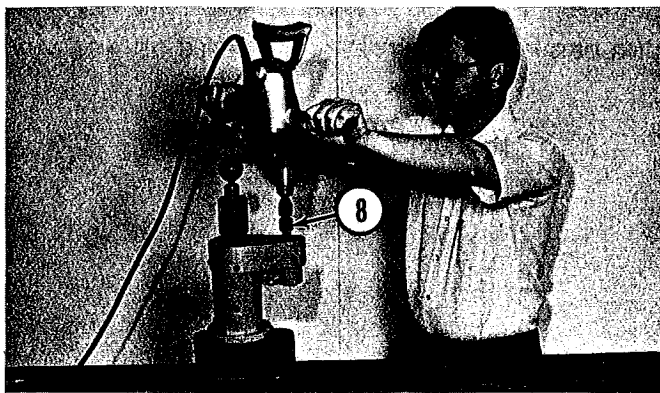

Fig. 14
11. Use a heavy duty industrial drill and adapter to operate the Porta-Matic Tool (Fig. 14). Remove the depth set gauge and start the rough cut.
12. Stop the cutter rotation immediately when the depth set collar (6) is against the washer (9). Loosen knob (4).